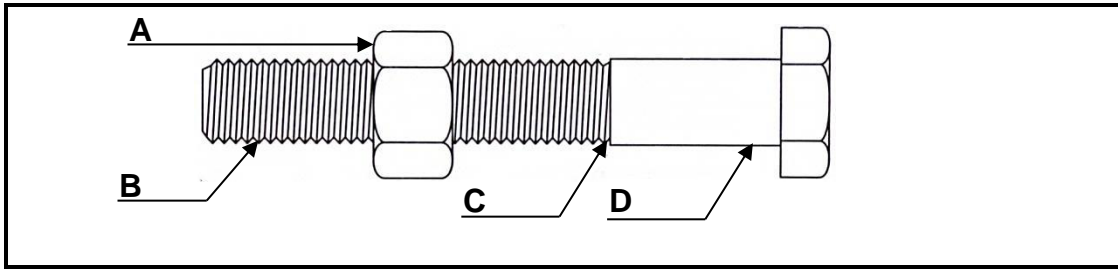

FIGURE 2.3
2.3 Name parts **A** to **D** of the bolt in FIGURE 2.3.